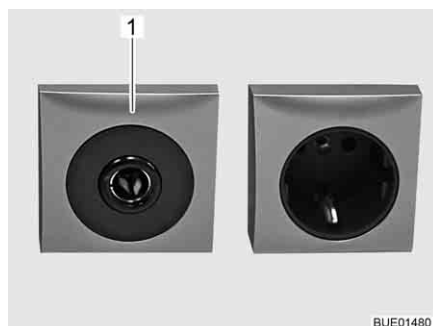

Fig. 115 12 V/10 A socket
- ▷ Only connect devices with a maximum of 10 A to the sockets (Fig. 115,1) of the 12 V power supply.